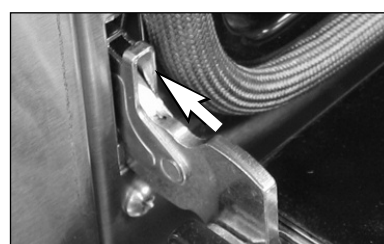

Fig. 25
4. Open the door completely and rotate the locks into the closed position (Fig. 25).